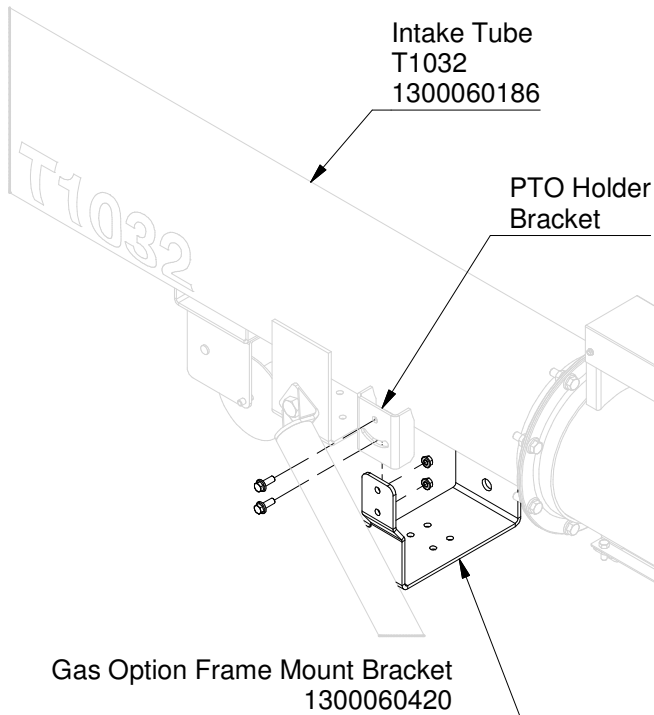

FIGURE 1
1. Fasten the Gas Option Frame Mount Bracket to the PTO Holder Brackets welded on the T1032 Intake Tube using (4) 3/8" x 1" Hex Flange Bolts and Flange Nuts from Bolt Bag 13000008839 included in this kit. See Figure 1. The Gas Option Frame Mount Bracket replaces Frame Mount Clamps (PN 1300031390) and (PN 1300010632) in HVST T1032 Gas Option Kit 13000PBT10062.